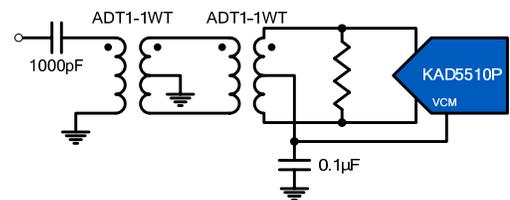

Figure 30. Transformer Input for General Purpose Applications
Best performance is obtained when the analog inputs are driven differentially. The common mode output voltage, VCM, should be used to properly bias the inputs as shown in Figures 30 through 32.
An RF transformer will give the best noise and distortion performance for wideband and/or high intermediate frequency (IF) inputs. Two different transformer input schemes are shown in Figures 30 and 31.